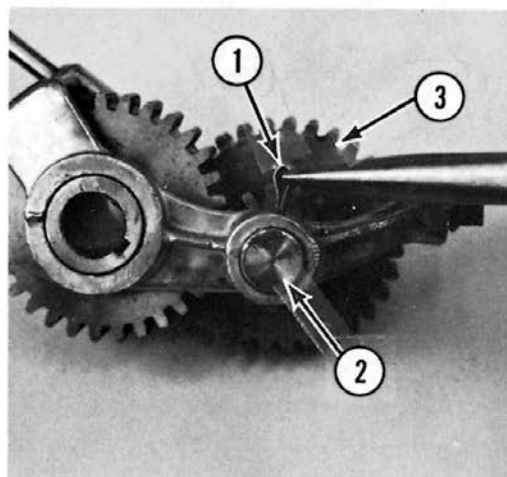

Fig. 3-19
A. Remove the cotter pin (1, Fig. 3-19) from the tumbler shaft.
B. Remove the tumbler shaft (2, Fig. 3-19) and the transmission gear assembly (15T and 31T) (3, Fig. 3-19).